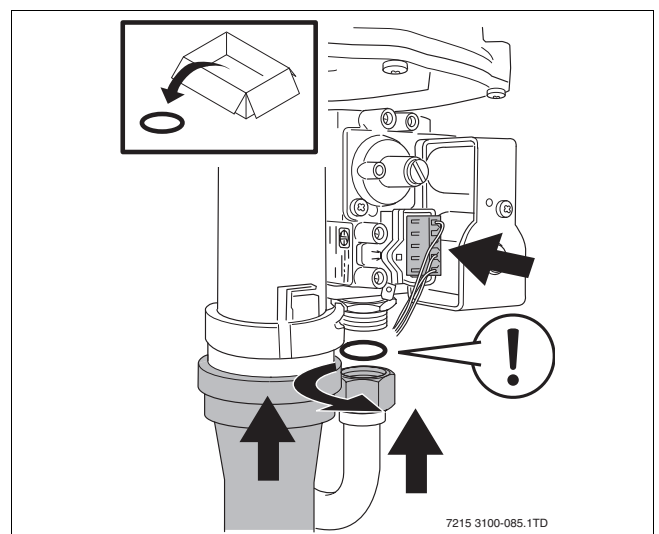

Fig. 73 Place a new flat seal
- Place a new flat seal between the gas pipe and the gas valve (→ fig. 73).